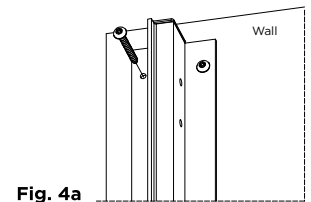

Fig. 4a
4. Using the wall post as a template, mark the mounting holes on wall. Use #19 drill bit (4.2mm) for 2" (50mm) deep pilot holes into adequate wall backing. If backing is not present, use anchors per local building code. Secure wall post to wall using #1002495 screws. **Fig 4a.**